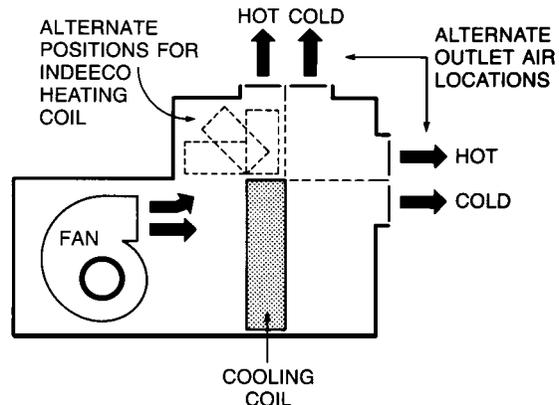

Figure 52.
**Multi-Zone or Dual Duct Heaters** – These heaters are designed for installation inside multi-zone or dual duct air conditioning equipment, where the airflow is highly variable and unevenly distributed (Figure 52). These heaters use coils derated to approximately 25 watts per square inch (3.8 watts per square cm) of wire surface area (approximately one half normal watt density). Low density coils run cooler and thus provide longer life under these stringent operating conditions.